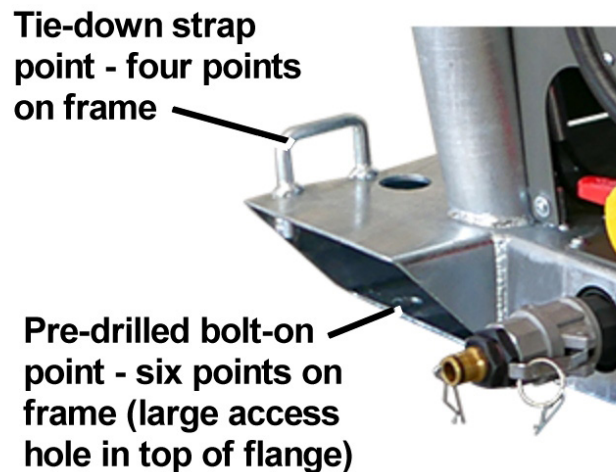

Figure 3 – SuperReel M-Series Sprayer Mounting Options
6. Position your SuperReel M-Series sprayer onto the vehicle and mount securely to the tray. If using tie-down straps, they must be rated to at least the total mass of the unit when filled with fluid. Alternatively, the integrated tank frame may be bolted to the vehicle. Refer to Figure 3 for details on mounting points.